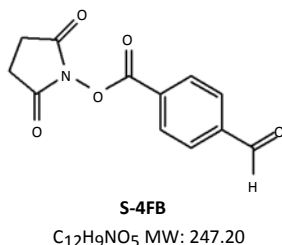

Figure 4: Structure of S-4FB
- 5) **The conjugation is traceable spectrophotometrically.** The HyNic-4FB conjugate bond is chromophoric- it absorbs at 354 nm and has a molar extinction coefficient of 29,000. This allows (1) real time spectrophotometric monitoring of a conjugate reaction, (2) ability to 'visualize' the conjugate during chromatographic purification using a UV or photodiode array detector and (3) quantification of conjugation.
- 6) **The modifications of both the HyNic moiety on the protein and the 4FB moiety on the protein is quantifiable using a colorimetric assay.** The reproducibility of any reaction is dependent on accurate characterization of all components. The Molar Substitution Ratio (MSR), *i.e.* the number of HyNic moieties/protein, of HyNic groups can be quantified colorimetrically as reaction with 2- sulfobenzaldehyde yields a chromophoric product that absorbs at 350 nm with a molar extinction coefficient of 18000 (Figure 4). The MSR of 4FB groups can be determined colorimetrically by its reaction with 2-hydrazinopyridine forming a hydrazone that absorbs at 350 nm with a molar extinction coefficient of 20000. This kit contains all the reagents necessary to determine both MSRs. Procedures to guide users through this process are given in the procedures below .
The determination of the number of HyNic groups/protein is accomplished by the colorimetric assay shown in Figure 4 and described below.
Figure 4: Scheme presenting the colorimetric assay used to quantify the number of 4FB groups on a biomolecule. The bis-arylhydrazone product absorbs at 350 nm has a molar extinction coefficient of 18000 M⁻¹.